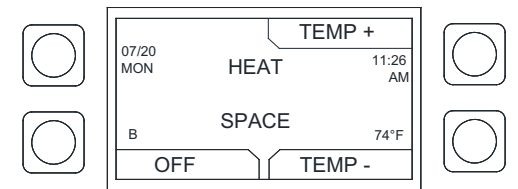

Figure 2 (Home Screen)
1. Press any button on the HMI to access the home screen (Figure 2).
Active faults can be viewed on the HMI home screen (Figure 2) or by pressing the top two buttons on the HMI and navigating to ACTIVE FAULTS. Refer to "HMI Fault Codes" in the OIM manual for a complete list of fault codes.